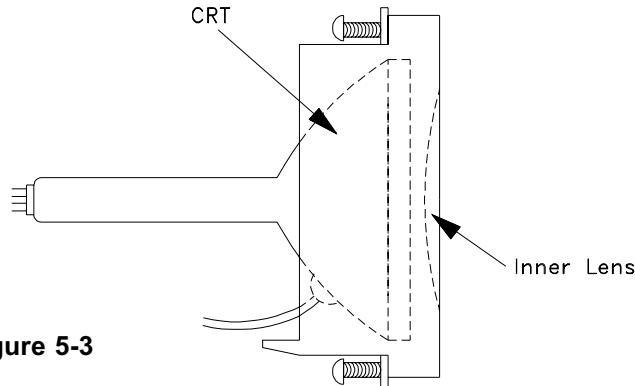

Figure 5-3
**Note:** The replacement CRT is supplied as an assembly comprised of the CRT and the Inner Lens with the space between them filled with ethylene glycol. Care should be taken during handling and installation to prevent shock from disrupting the seal or alignment between the CRT and Inner Lens. [Figure 5-3]